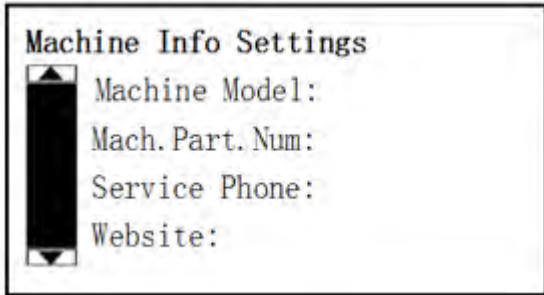

Figure 19
- 3) Press  to enter the **machine info setting** page (figure 19).